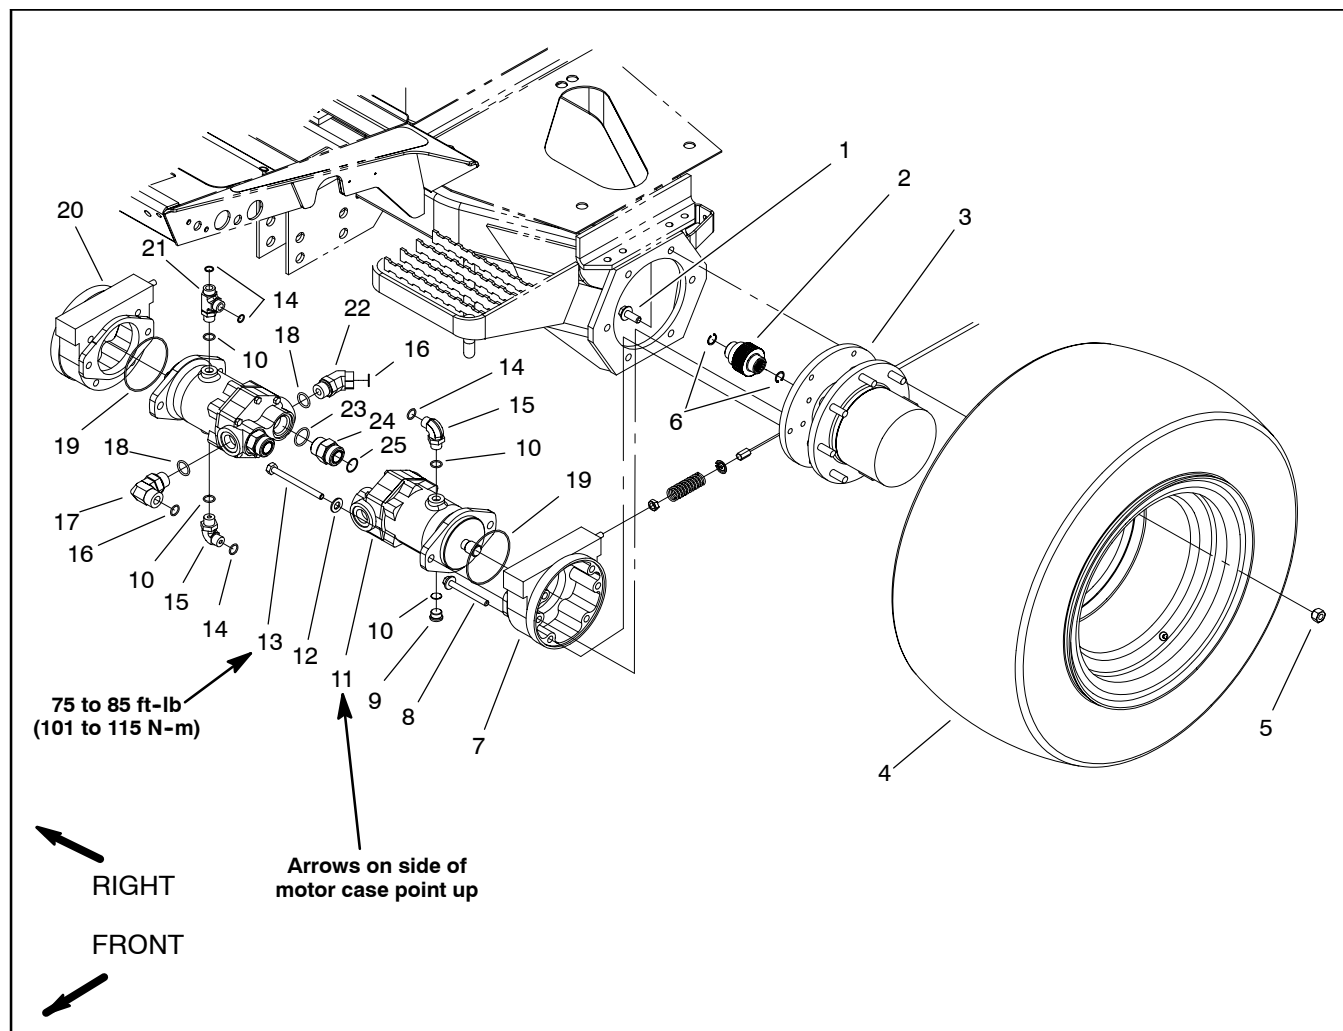

Figure 74
4. Remove wheel motor using Figure 74 as a guide.